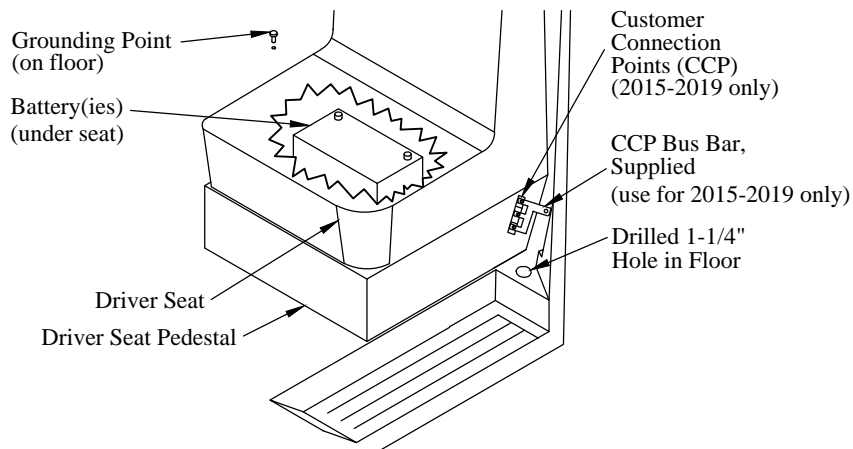

Figure 12: Power connection locations.
5. **Drill** and **Deburr** a 1-1/4" hole in the floor next to the driver seat in the location shown (Figure 12).
11. **Cut** the negative(-) lead to the length required to reach a vehicle ground point on the floor between the front seats (Figure 12).